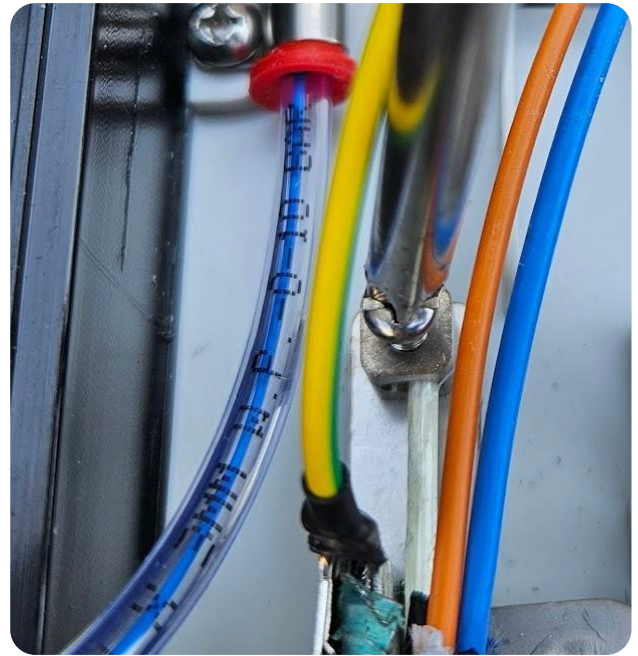

Fig. 3b
- Tighten using a phillips head screw driver as shown in Fig. 3b.